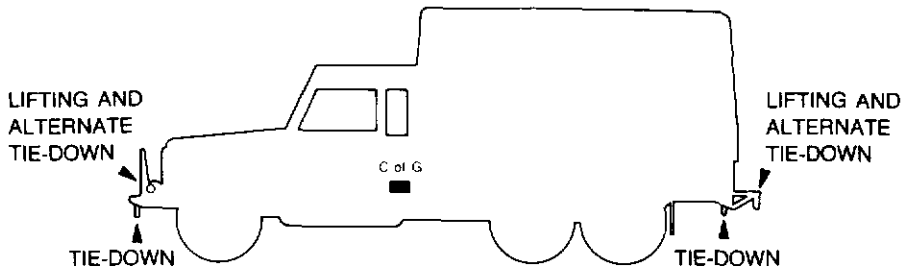

Figure 1-3 Slings and tie-down points
34. Slings and tie-down points are illustrated in Fig.1-3.